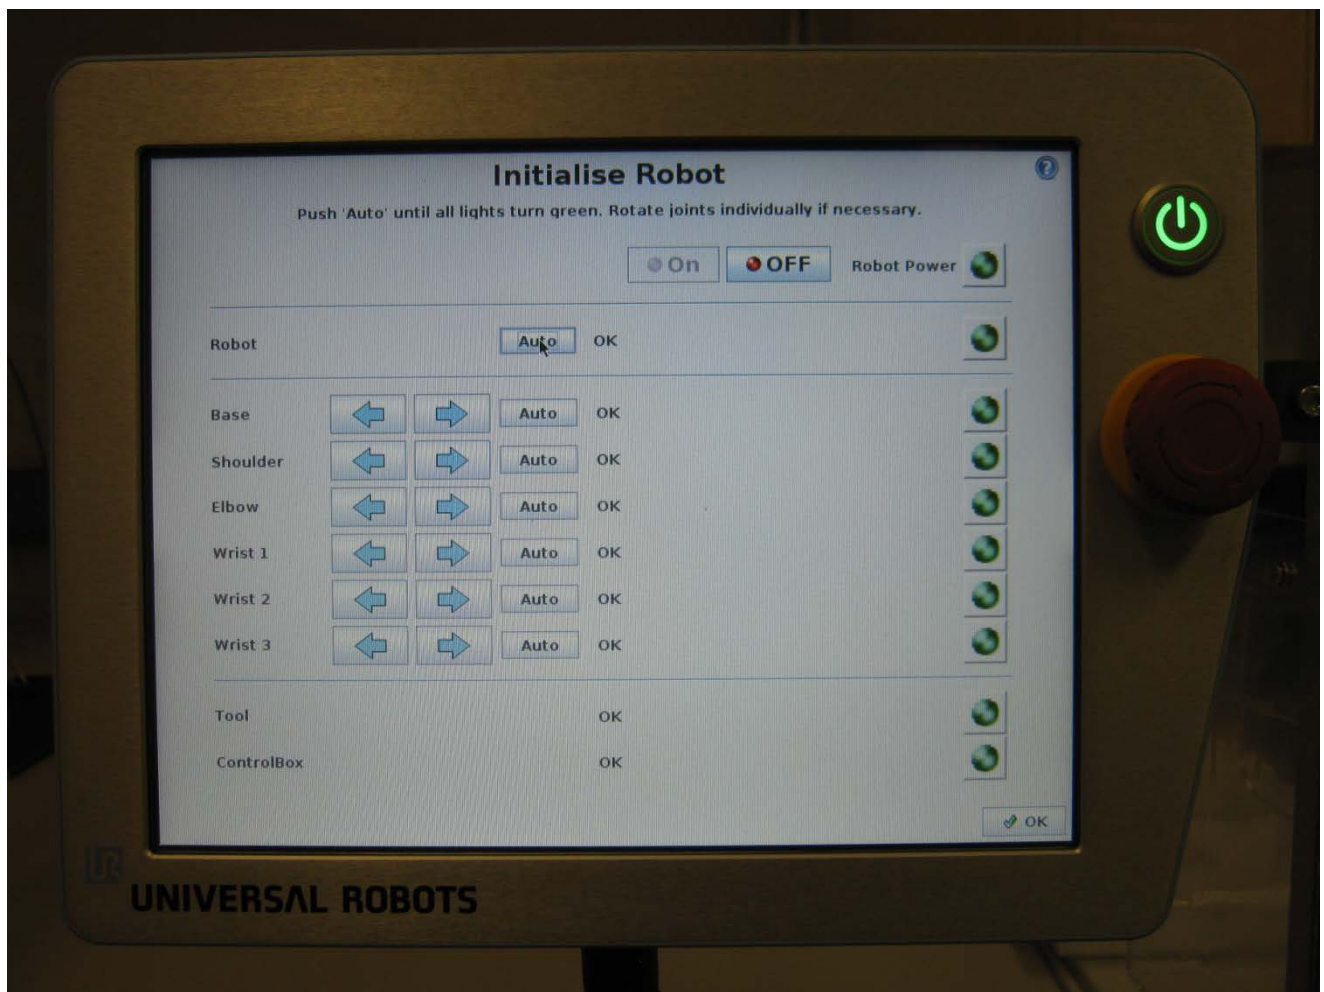

Figure 7 Initialisation is complete
10. Once the robot is initialised all of the joints will have OK written beside them (Figure 7). Press the OK button at the bottom of the screen.